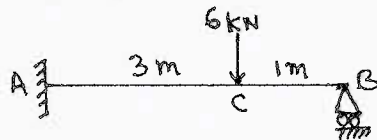

Fig.Q6(a)
- 6 a. Analyze the propped cantilever beam subjected to the loadings as shown in the Fig.Q6(a), by consistent deformation method. Support B sinks by 25 mm. Take $E = 10 \text{ GPa}$ and $I = 20 \times 10^9 \text{ mm}^4$. Draw BMD and SFD.